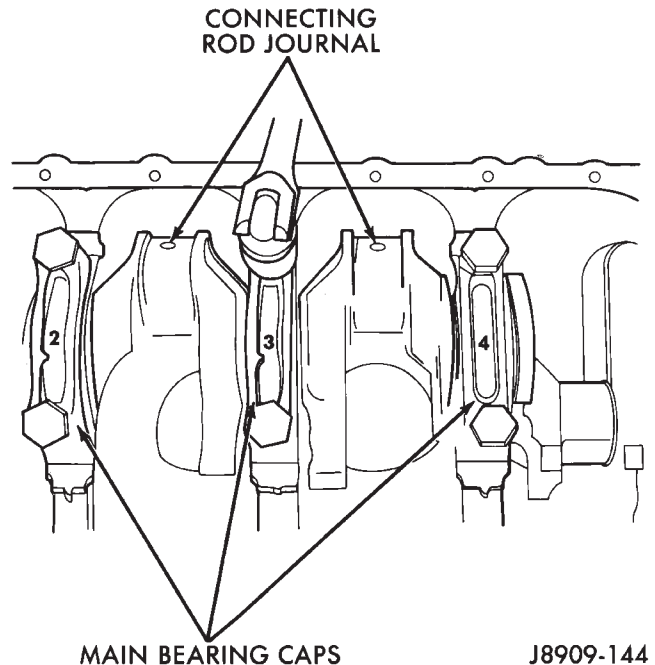
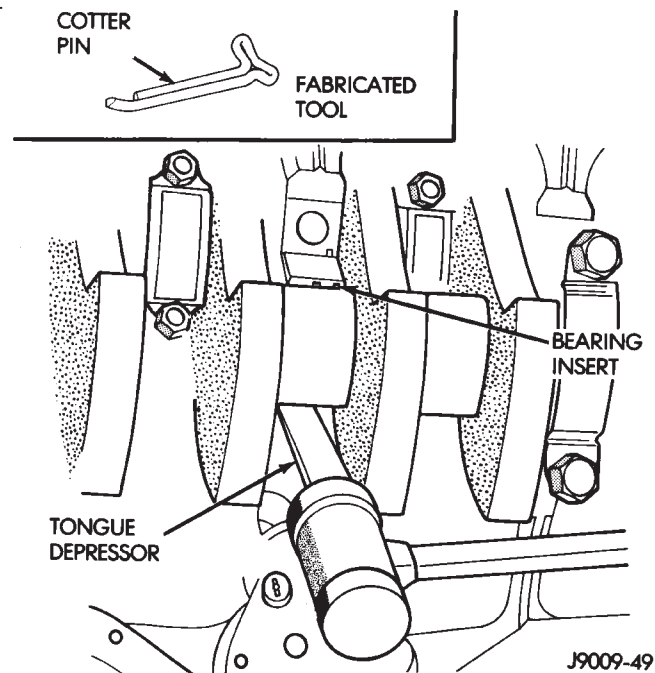

Fig. 46 Removing Main Bearing Caps and Lower Inserts
Fig. 47 Removing Upper Inserts
- (1) Disconnect negative cable from battery.
- (2) Remove the spark plugs.
- (3) Raise the vehicle.
- (4) Remove the oil pan and oil pump.
- (5) Remove only one main bearing cap and lower insert at a time (Fig. 46).
(6) Remove the lower insert from the bearing cap.
(7) Remove the upper insert by LOOSENING (DO NOT REMOVE) all of the other bearing caps. Now insert a small cotter pin tool in the crankshaft journal oil hole. Bend the cotter pin as illustrated to fabricate the tool (Fig. 47). With the cotter pin tool in place, rotate the crankshaft so that the upper bearing insert will rotate in the direction of its locking tab. Because there is no hole in the No.3 main journal, use a tongue depressor or similar soft-faced tool to remove the bearing insert (Fig. 47). After moving the insert approximately 25 mm (1 inch), it can be removed by applying pressure under the tab.
(8) Using the same procedure described above, remove the remaining bearing inserts one at a time for inspection.